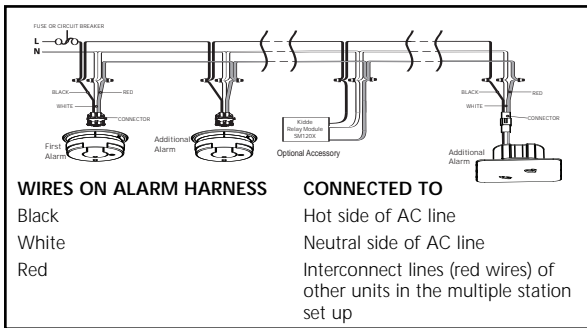

FIGURE 4
- Figure 4 illustrates interconnection wiring. Improper connection will result in damage to the alarm, failure to operate, or a shock hazard.